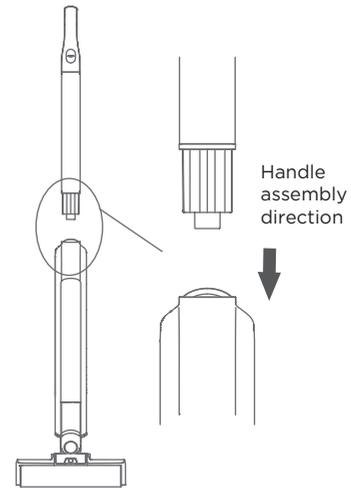

FIGURE 1
2. Align the metal of handle with the connecting rod on the mainbody. Insert the handle vertically into the mainbody until a “click” sound is heard. (Figure 1)